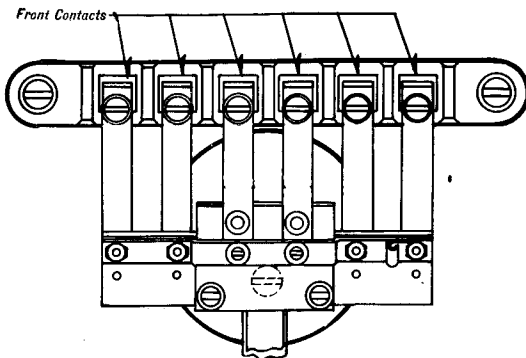

Fig. 9—No Back and Six Front Contacts
- (c) No back, six front contacts (Figures 9 and 18).